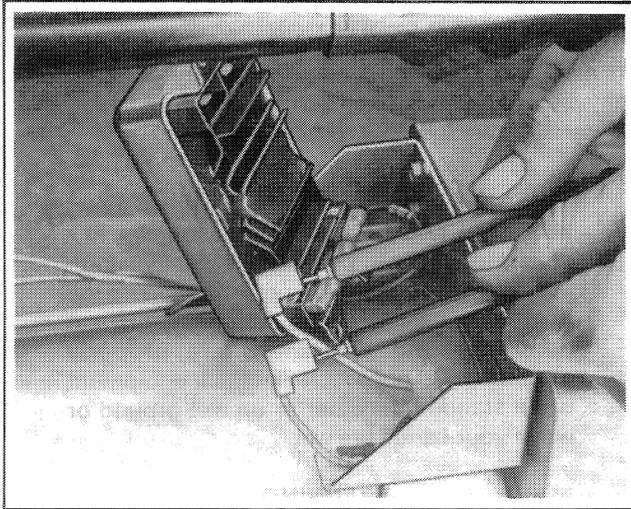

Figure 4-6. Connecting Battery Power to Voltage Regulator Leads
3. Using a 6-volt lantern battery or a 12-volt automotive battery, attach battery positive (+) lead to voltage regulator positive (+) lead and battery negative (-) lead to voltage regulator negative (-) lead. Figure 4-6. Connect a DC amp meter in series with this circuit.